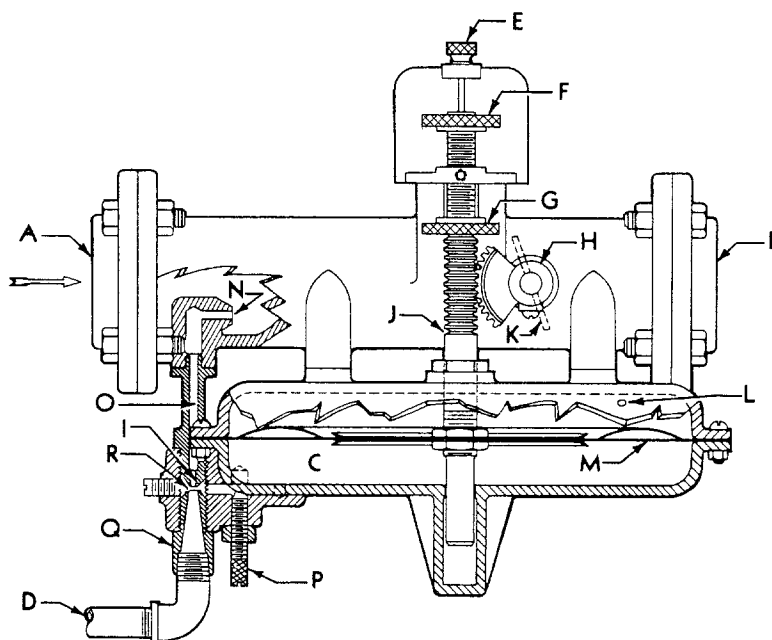

FIGURE 1
1.0 VALVE OPERATION (Refer to Figure 1)
2.0 CONNECTION OF CONTROL VALVE PIPING IN THE AIR LINE (Refer to Figure 1)
3.0 OPERATION AND ADJUSTMENT (Refer to Figure 1)
4.0 CONNECTING ELECTRIC SOLENOID VALVE (CRS) - (Refer to Figure 1)